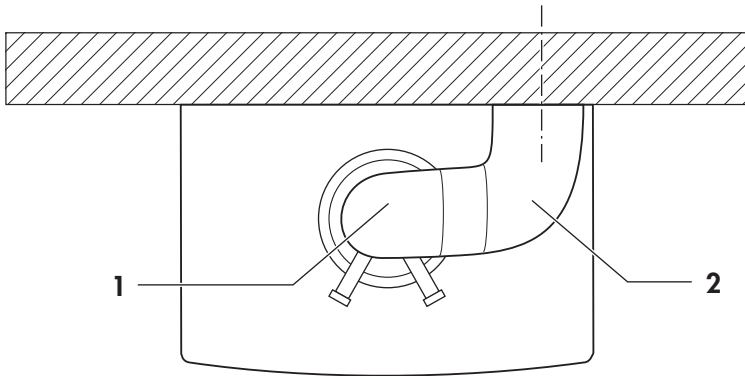

Fig. 6.1: Arrangement of 2 x 87° elbows – View from above
- When using 2 x 87° elbows follow fig. 6.1 to fig. 6.3 to avoid obstructions on outer wall.